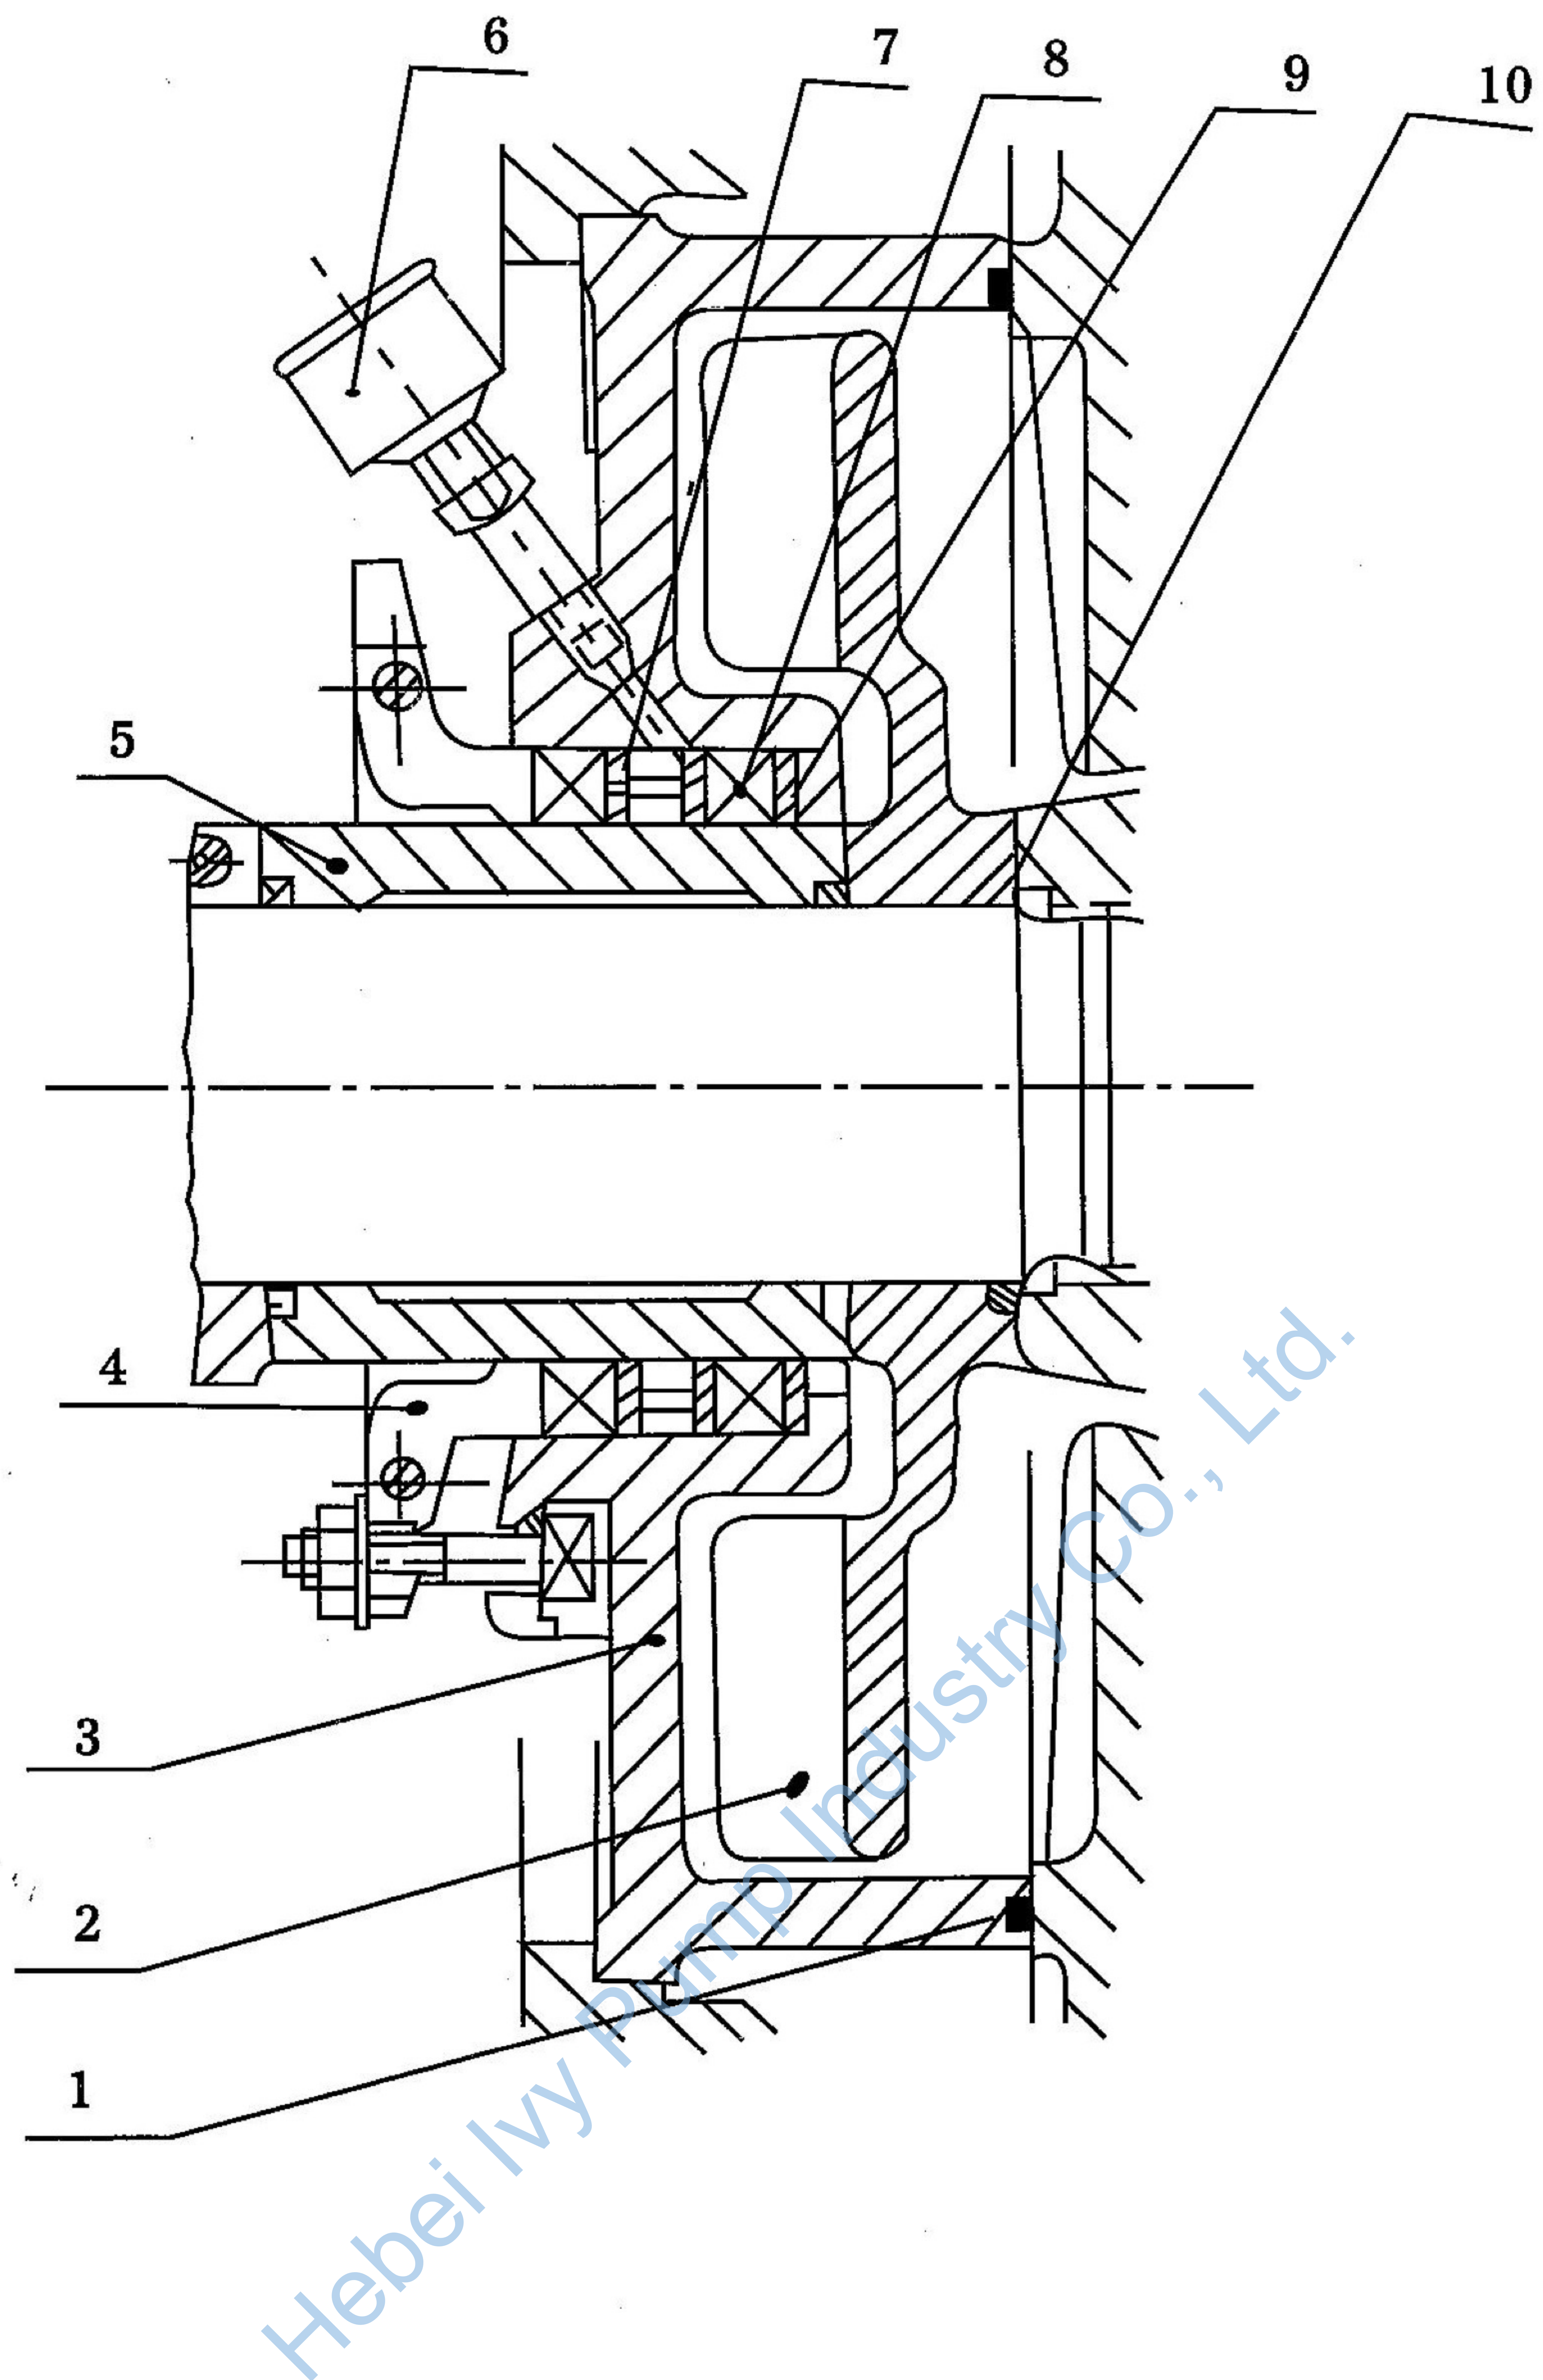

Figure 9: Metal Pressure-Reducing Cover and Auxiliary Impeller Seal
3. Installation of the Auxiliary Impeller Shaft Seal Assembly (see Figures 9 and 10)